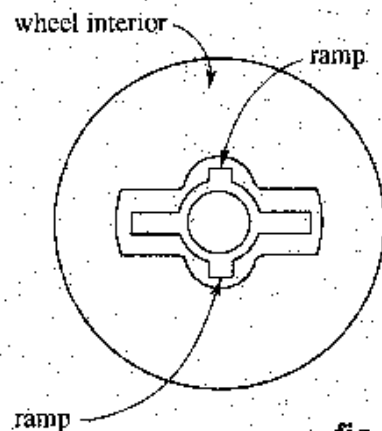
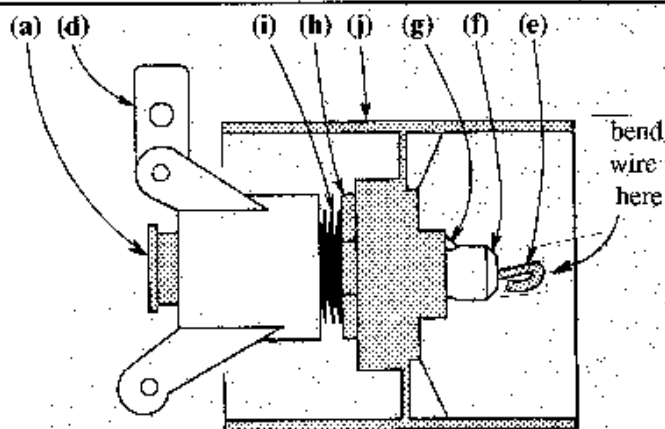

fig. 5
fig. 6
STEP 6 Push the wheel (j) onto the axle. Make sure the locking pin pops back up (noted at point B, fig. 6) when the wheel is pushed on. If it doesn't pop up, pull the wheel back off and trim a small amount of the hub where it contacts the pin and try it again. Fig. 5 shows the built-in ramps in the wheel hub, one of which helps force down the locking pin whenever you slide on a wheel. Just align a ramp with the locking pin and push the wheel on.
STEP 7 Before the wheel is on and locked in place, bend the end of the wire (e) with a pliers, as shown in fig. 6, so it will be easier on your thumb when you push down on the spring. Pushing the spring down also lowers the locking pin, allowing the wheel to be pulled off easily. The slanting portion of the locking pin enables the wheel to be slid on quickly and easily too when aligned with a ramp within the hub.